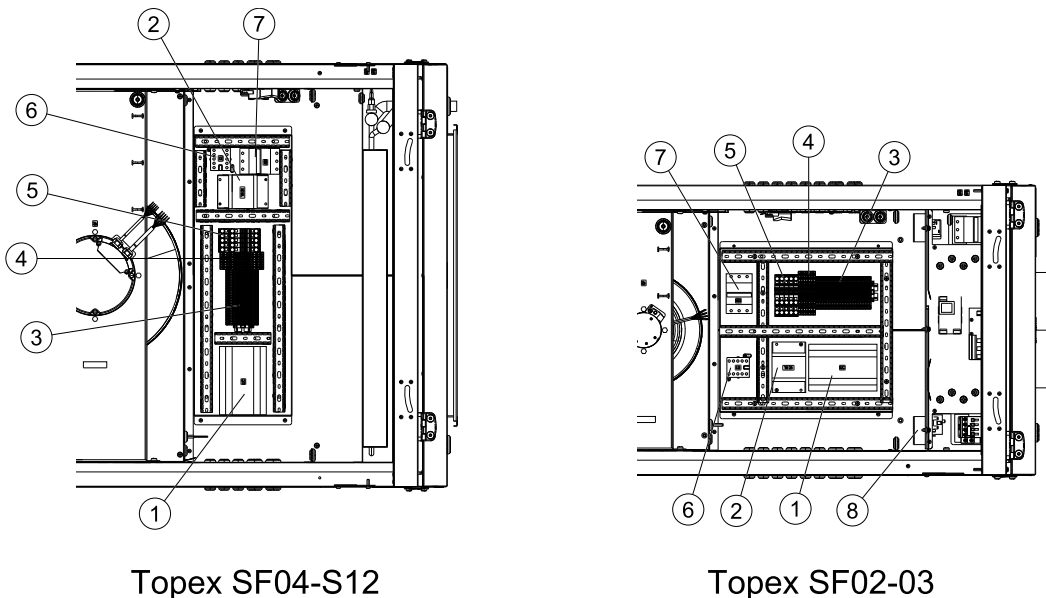

Fig. 1 Connection box
The manual overheat protection is reset by pressing the button, marked RESET figure 1. The power demand of the electrical heating coil is controlled by the main regulator.
- If activating the fire alarm when the heater is switched on, the fan stops immediate without re-cooling, this can cause the overheating protection to trip. See figure 1 where to reset.